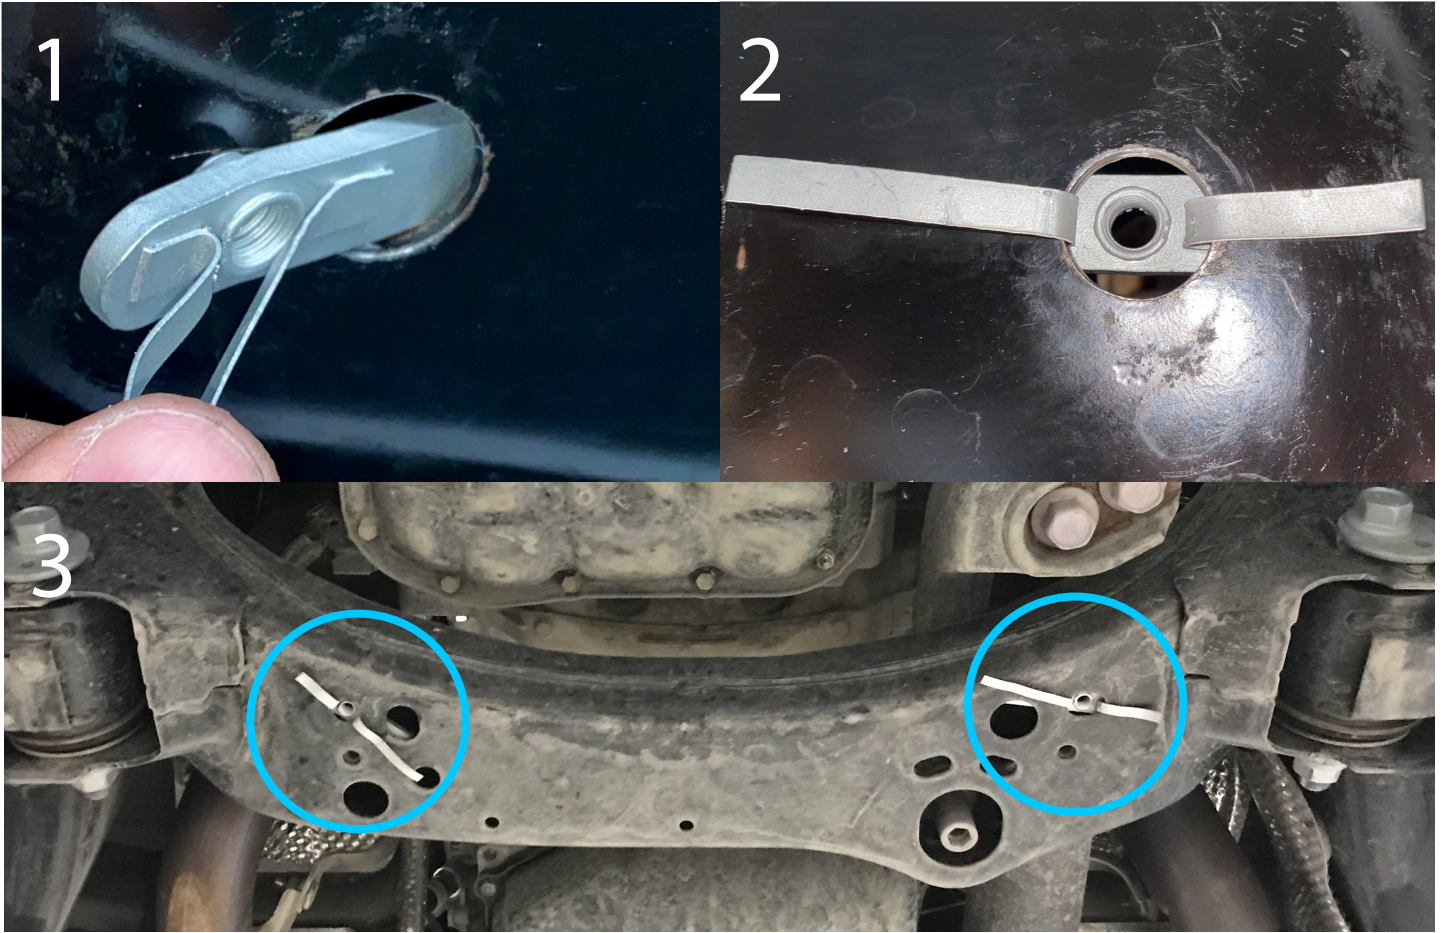

Fig. 1
1. Install M8x65 insert nuts (item D) as shown in fig.1